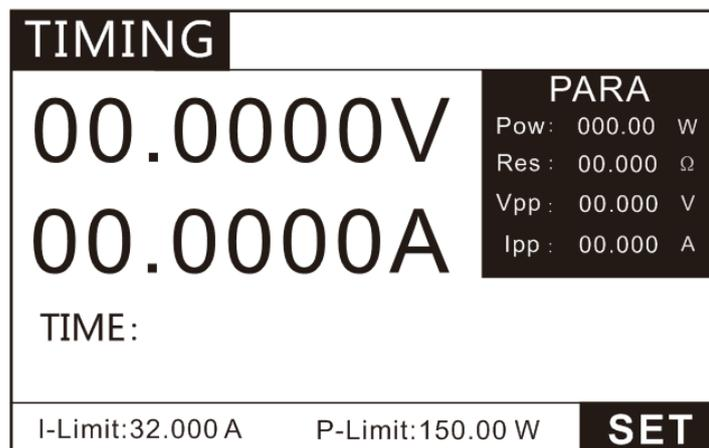
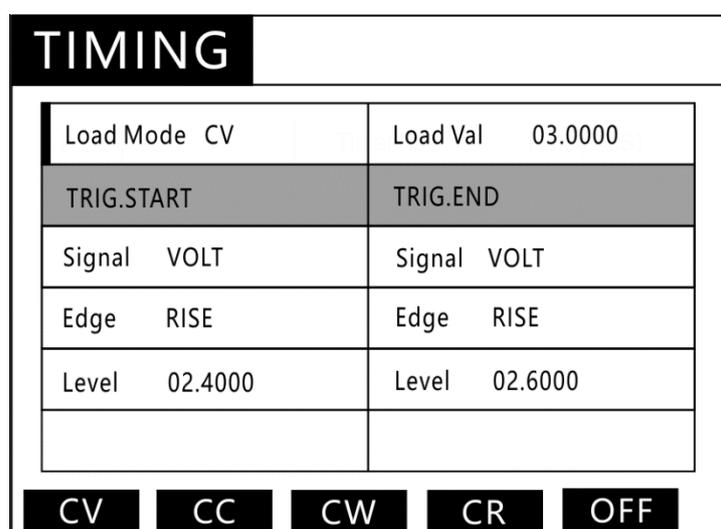

Figure 3.30 TIMING mode test Page
Figure 3.31 TIMING mode setting interface
1. Press the key  to enter the mode selection page, press the up and down keys to select TIMING, and press the key  to enter the TIMING test interface diagram shown in Figure 3.30.
2. As shown in Figure 3.30, in the TIMING interface, press the key  to enter the setting interface shown in Figure 3.31.
3. Set the load parameters according to the values shown in Figure 3.31. the waiting time is from the load detection to the rising edge of 2.4V to the load detection to the rising edge of 21.6V, is equal to the climb time of the power supply. The minimum detection time is 100uS.